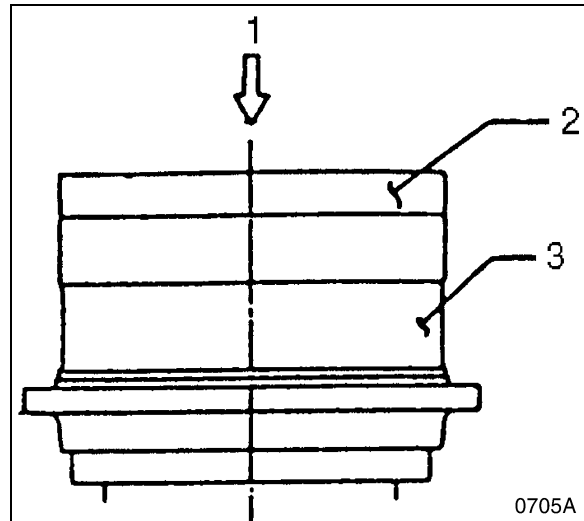

Figure 92
7. Insert the 10 alignment pins (27, Figure 13) in the outer face of the hub (1) and match up the installation marks on the hub (1), A gear clusters and ring gear A (4). Install the ring gear on the hub and fill the assembled gearbox with approximately 3.3 liters (3.5 quarts) of gear oil. See Figure 92.